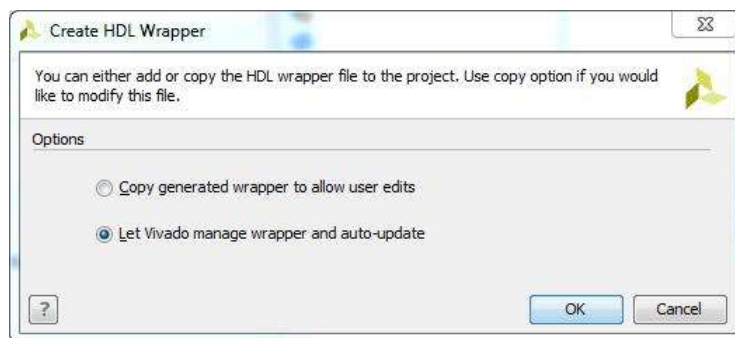

Figure 24: Creating an HDL Wrapper
2. In the Create HDL Wrapper dialog box, select **Let Vivado manage wrapper and auto-update**, as in Figure 24. Click **OK**.